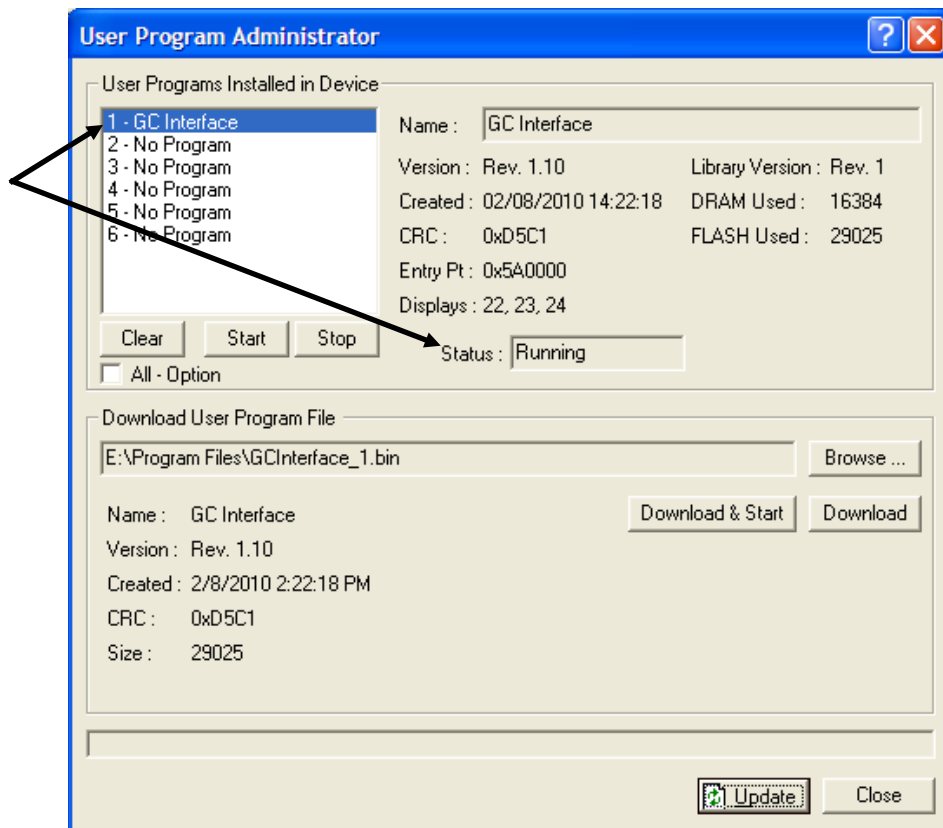

Figure 2-8. User Program Administrator
9. Click **OK**. The User Program Administrator screen displays (see *Figure 2-8*). Note that: